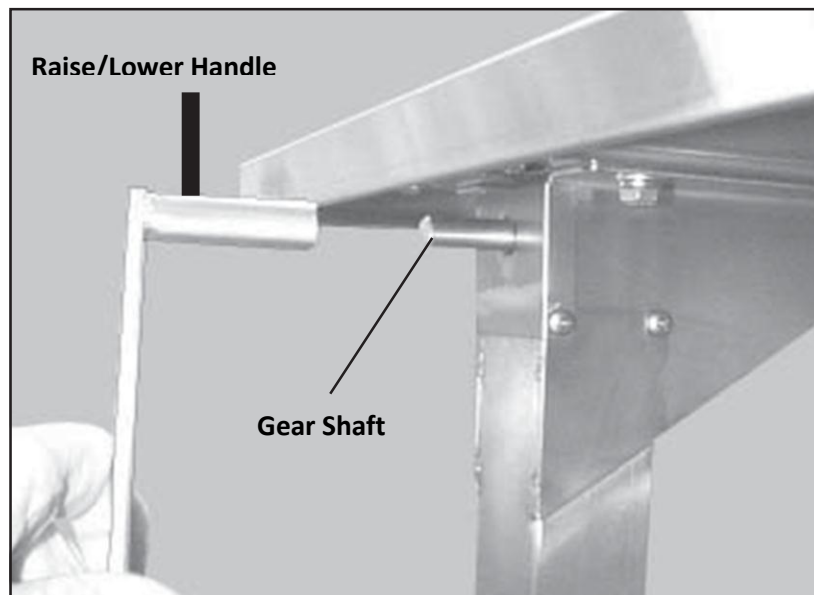

Figure 2-8
2. **IMPORTANT:** Put the raise/lower handle on each leg (Figure 2-8), and lower the leg to its lowest position. Both legs must be *in the same position* to prevent a misalignment during assembly.
9. Insert the raise/lower handle in place on the gear shaft on either side of the table (Figure 2-8). Align the flat on the handle with the flat on the gear shaft.